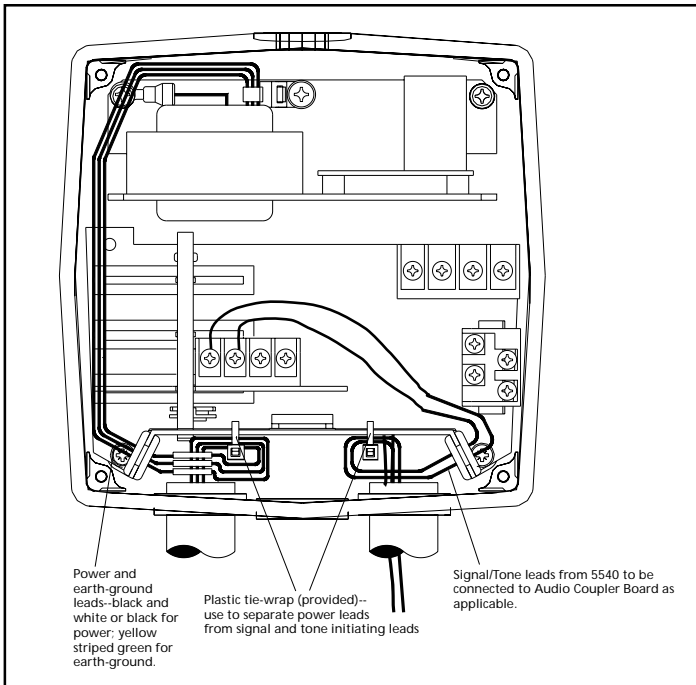

Figure 4. Wiring the 5532M Series Speaker/Amplifier
2. Install wires through a knockout hole in the bottom of the box from a raceway that is, with its connections to the 1/2" (12.7 mm) conduit knockout hole, approved for the same degree of protection and enclosure type needed by the application. Use the provided plastic tie-wrap, on the barrier to the electronics, to separate incoming power leads from signal and tone initiating leads, per NEC (Figures 4, 5 and 6).
3. Wire as follows referring to Figures 4, 5, and 6 (These instructions apply to both tone generator and 5532M series speaker/amplifier, except as noted):